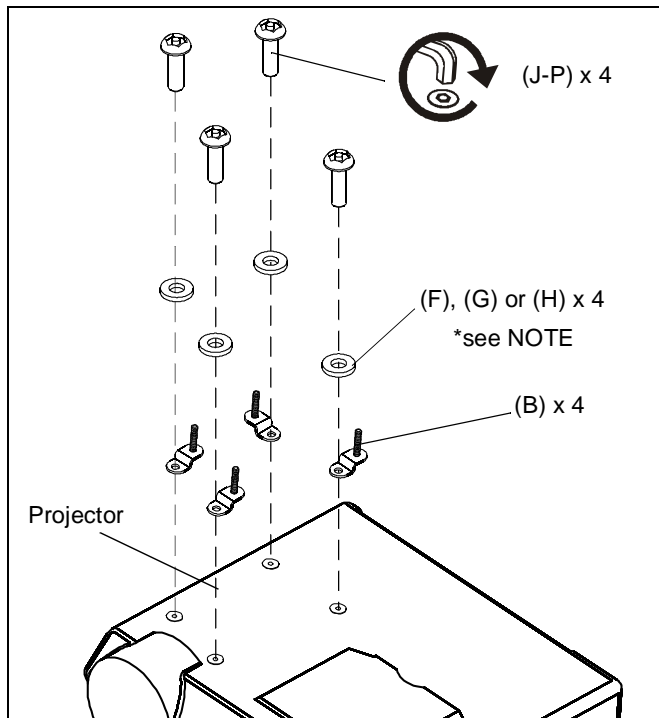

Figure 8
- Attach the projector security legs (B) to the projector, using the correct size screws (J, K, L, M, N or P) and washers (F, G or H) for your specific projector. (See Figure 8)